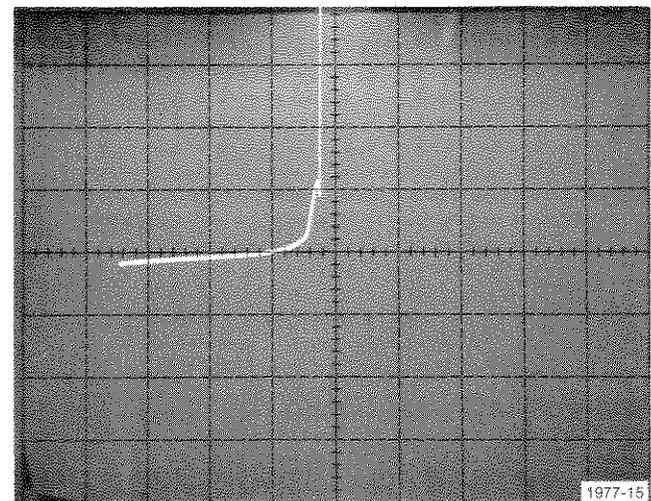

Fig. B-4. Display of - power supply rejection ratio (-psrr).
c. From the display, calculate the - Power Supply Rejection Ratio in the same manner that +PSRR was calculated in Step 2. See Fig. B-4.